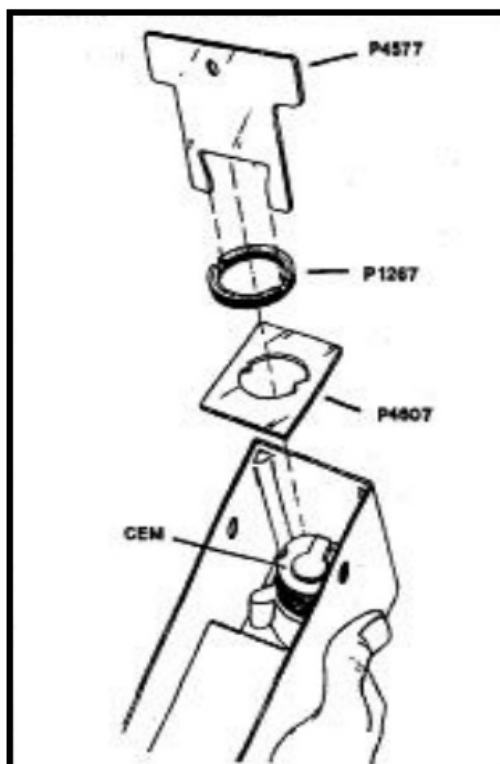

Fig. 1. Installing mortise cylinder.
1. Referring to the illustration at right, (a) install mortise cylinder (Alarm Lock Model CEM, optional) into the cover from the outside with the key slot at the 6 o'clock position; (b) install the Spacer Fig. 1. Installing mortise cylinder.(P4607), then screw the Lock Ring (P1267) onto the Cylinder as shown and tighten using the SpannerWrench (P4577) supplied. Fig. 1. Installing mortise cylinder.